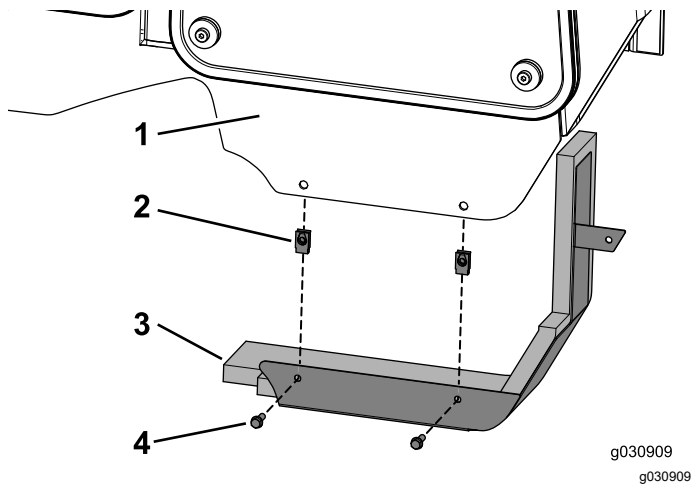

Figure 30
1. Install the 2 clip nuts onto the cab frame (Figure 30).
2. Secure the panel assembly to the cab using the 2 bolts (1/4 x 3/4 inch) as shown in Figure 30.